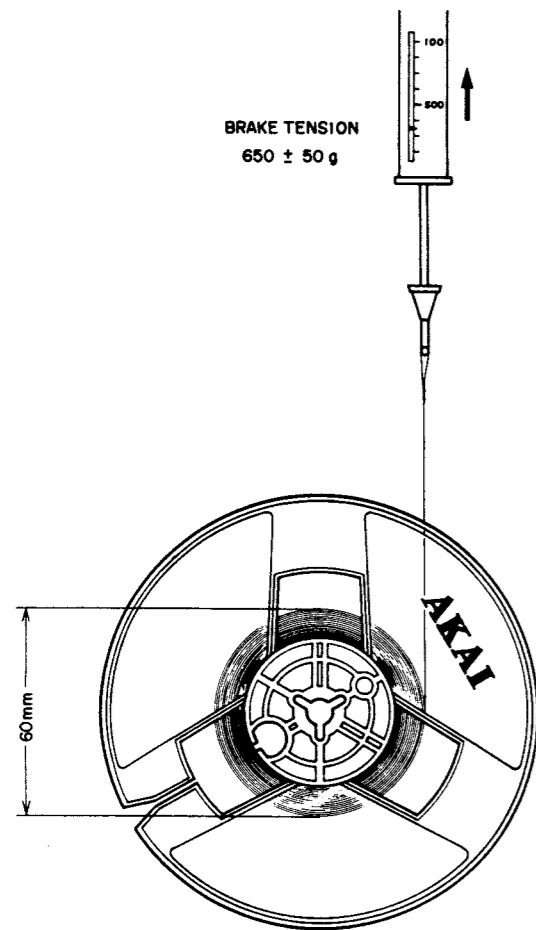

Fig. 9
- 1) As shown in Fig. 9, brake tension is measured with a spring gauge using a 60 mm diameter tape wound on a 5" reel. Ideal brake tension is 650 ± 50 gr. and left/right deviation allowance should be within 50 gr.